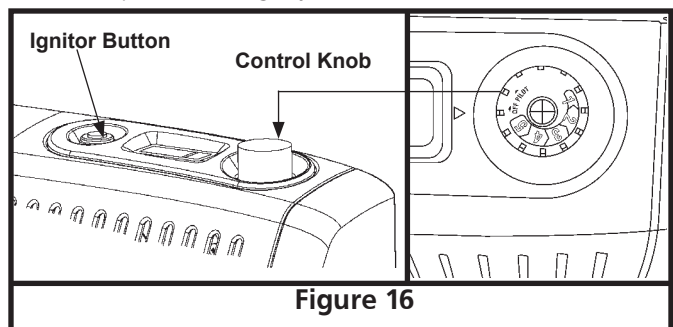

Figure 16
3. Push in gas control knob and slightly turn clockwise ↻ to the OFF position (see figure 16).
A yellow tip on the pilot flame indicates dust and dirt in the pilot assembly. To clean the pilot assembly find the small pilot air inlet hole about two inches from where the pilot flame comes out of the pilot assembly (see figure 16). With the unit off, lightly blow air through the air inlet hole. You may blow through a drinking straw if compressed air is not available.